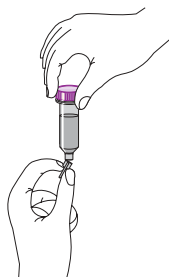

Figure 1. Snapping off the bottom closure of the DyeEx 2.0 spin column (do not screw).
3. **Snap off the bottom closure of the spin column (Figure 1), and place the spin column in a 2 ml collection tube (provided).**